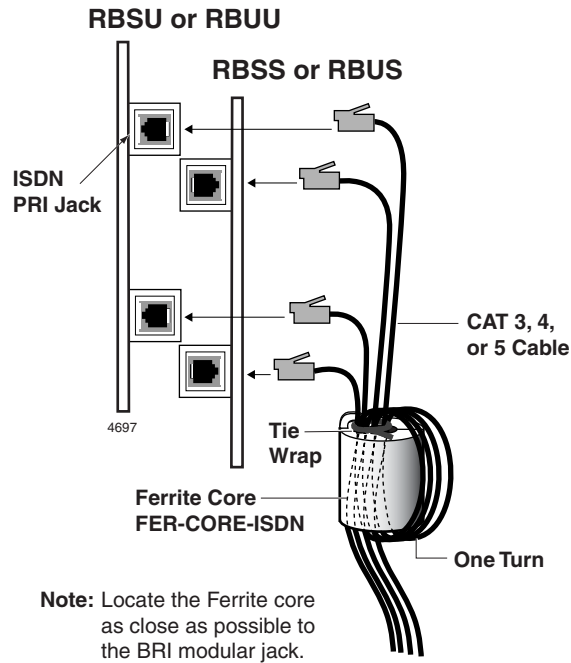

Figure 7-16 BRI Circuit Ferrite Core Installation
To ensure that the Strata CTX BRI circuit meets the EMC requirements, it is necessary to run all wire connecting ISDN BRI circuits (TE, LT mode and NT mode) through a Ferrite core. Use Toshiba part number, FER-CORE-ISDN, to order the ferrite core. It is not shipped automatically with the BRI circuit cards, it must be grounded separately. Figure 7-16 shows how to dress the wiring through the Ferrite core.
- Install the Toshiba-supplied Ferrite core on each ISDN circuit card per Figure 7-16 on page 7-23. The Ferrite core is not supplied with the ISDN circuit cards must be ordered separately.
- The maximum distance between the PSTN BRI interface circuit and the Strata CTX ISDN BRI U line-side circuit (NT) is 18 kft. The Telco with the use of a repeater or fiber optic cable may extend this distance.
- Each line-side BRI circuit requires a ferrite core as shown in Figure 7-16 on page 7-23.